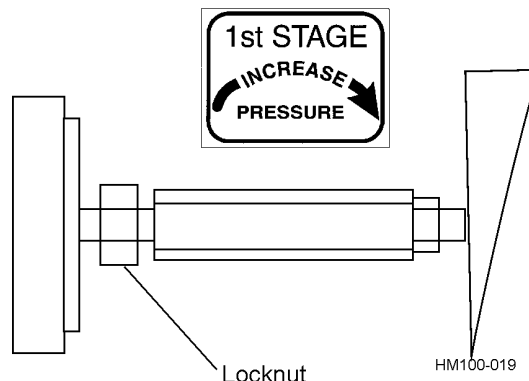

Figure 18 Location of Locknut
pressure and lock in place with locknut. See Figure 18.
1. Turn manual homogenization control handle/s counterclockwise or turn the hydraulic control knobs fully counterclockwise. (Loosen locknut, if tight) See Figure 18